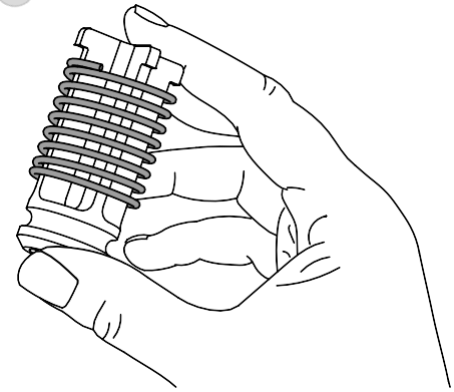

Figure 13
- Bypass poppet binding or damaged. Remove the bypass poppet, spring, and O-ring (Figure 13). Clean cavity. Inspect and replace as necessary.